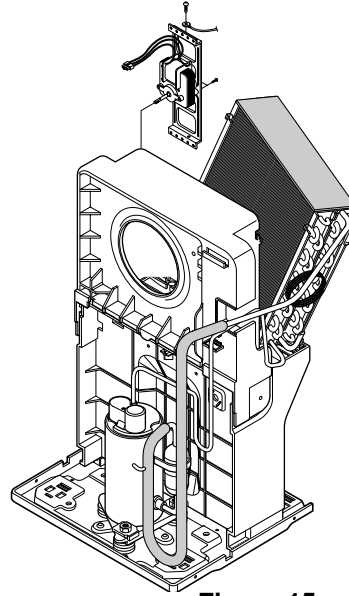

Figure 15
4. Unfasten 3 screws that secure the Motor and earth wire. (See Figure 15)